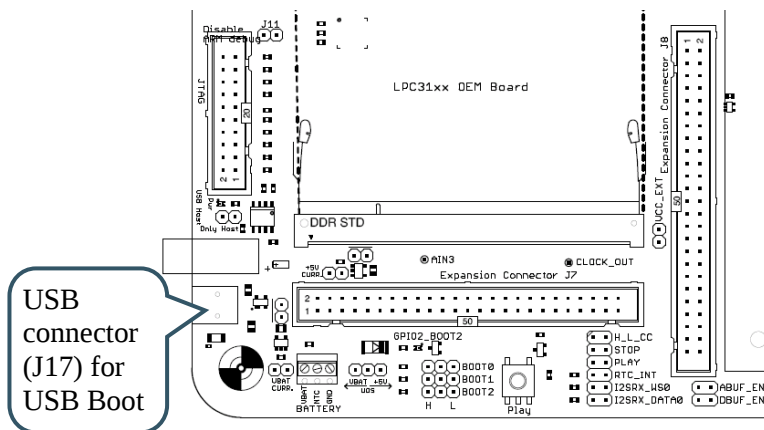

Figure 33 – LPC31xx Base Board USB Connector to LPC3131/41
1. Connect a USB cable (mini-B to A) from your computer to the LPC31xx Base Board. Note that it is the LPC3131/41 USB connection that should be connected to, not the UART-to-serial bridge on the *LPC31xx Base Board*. See Figure 33 for an illustration where the correct USB connector can be found.